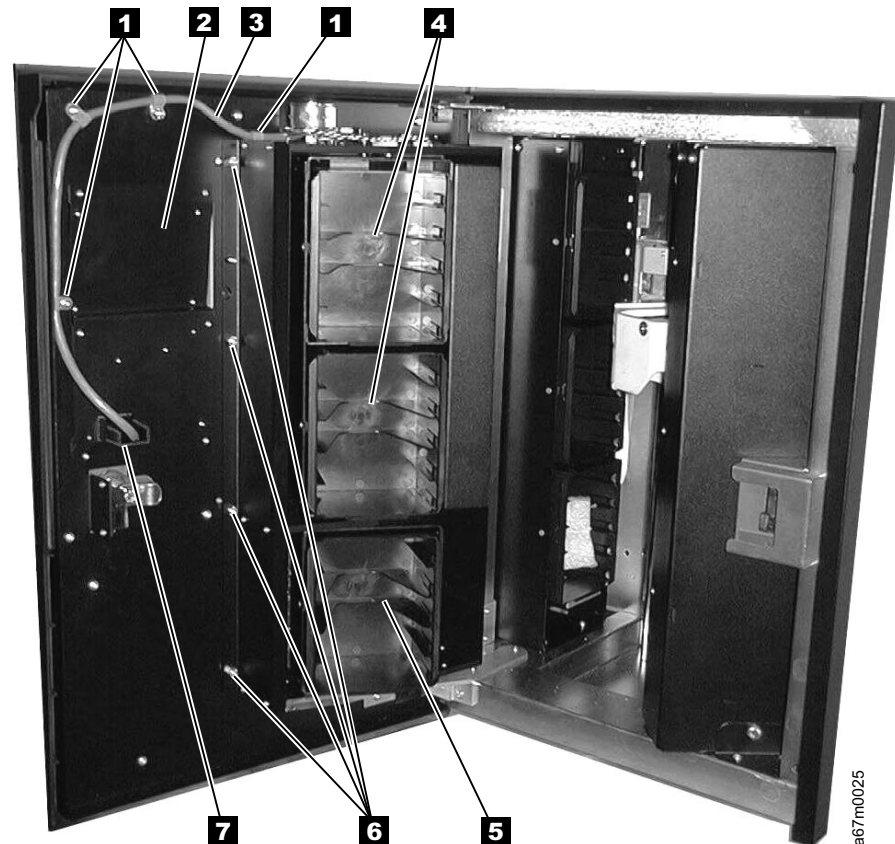

Figure 35. Installing the 12-slot I/O station
5. Remove the four I/O station cable clamps (see **1** in Figure 35). Three of the cable clamps are attached to the door with a T20 Torx screw, and one is attached with a 11/32-in. nut.